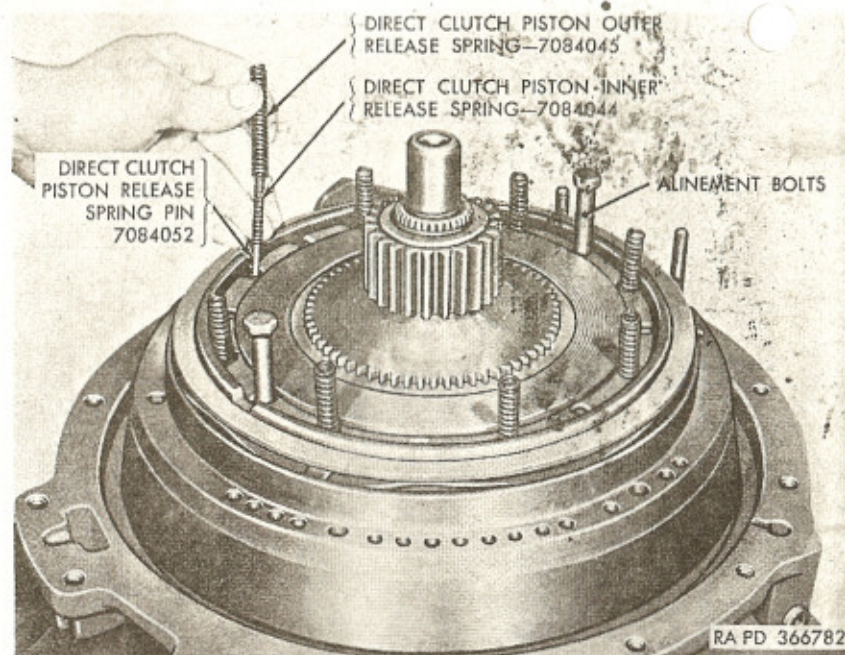

Figure 217. Installing release spring and guide pins (303M).
p. Install eight outer and eight inner direct clutch piston release springs (fig. 217) in round notches of clutch driven plates. Be sure release springs seat in recess of clutch piston.